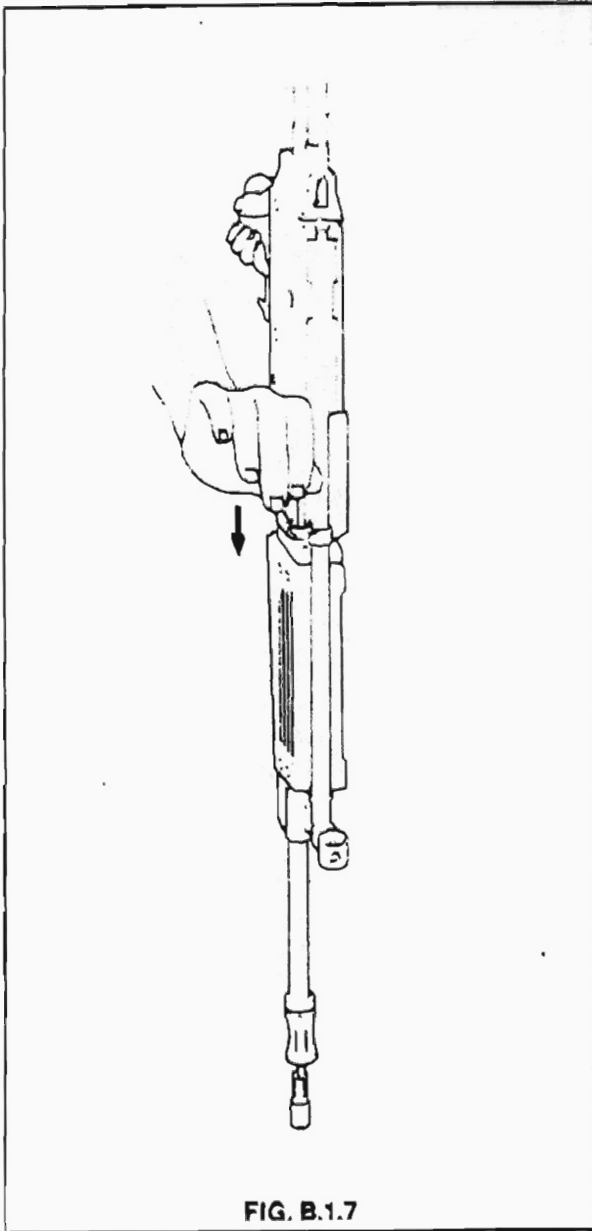

FIG. B.1.7
9. A barrel is unserviceable if the bore gauge of $\text{Ø} 5,687$ mm passes through the barrel bore. See Fig. B.1.7.